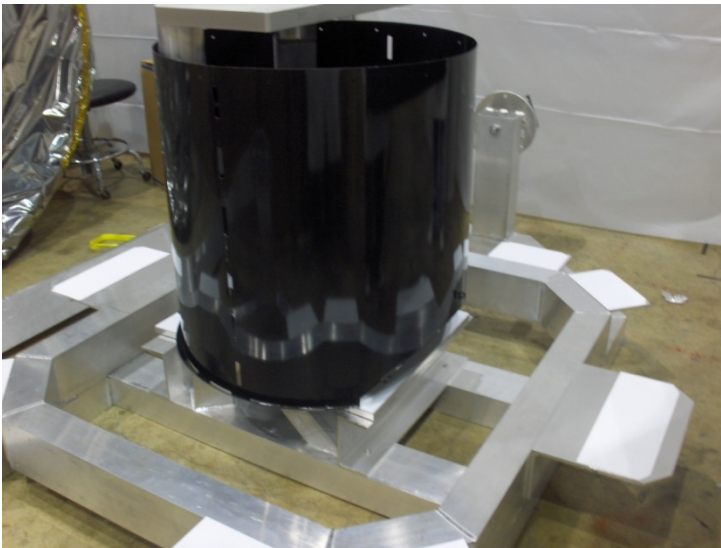
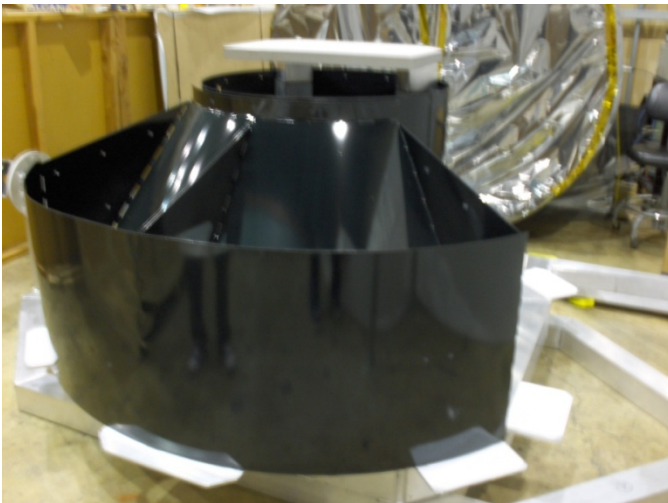
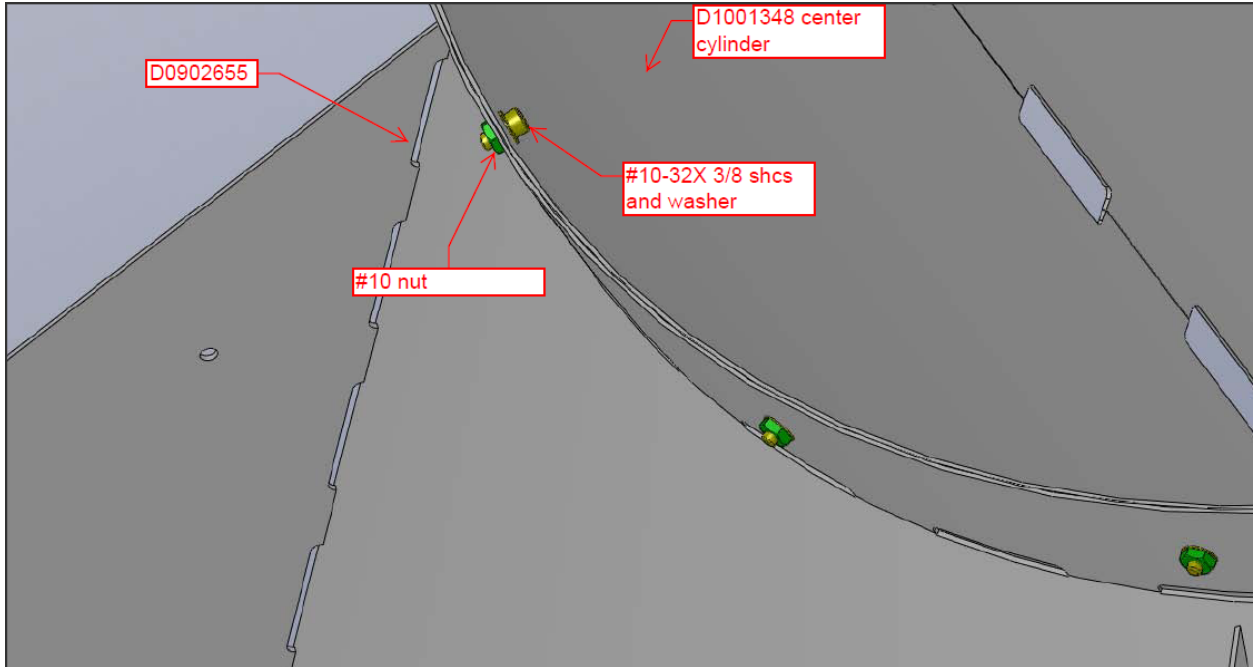

Figure 3
Figure 4
Figure 5
Place center cylinder (D1001348) onto the assembly/lift fixture (D1101192) as shown Figure 3 and Figure 5
- Next place bottom weldment (D0902655) on assembly/lift fixture and bolt the two together loosely with #10 nut and washer with a 10-32 x 3/8 lg. socket head cap screw as shown in Figure 4 and Figure 5, qty 5.
The apparatus is pivoted to the horizontal position for the baffle assembly, as shown in Figure 3.